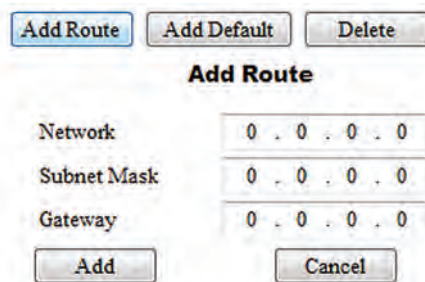

Figure 74. Add Route settings.
- **Add Route**—The **Add Route** button is used to add static routes to the route table and is described in Figure 74
Clicking the **Add Route** button will add an Add Route section to the **Routing** tab. See Figure 74.